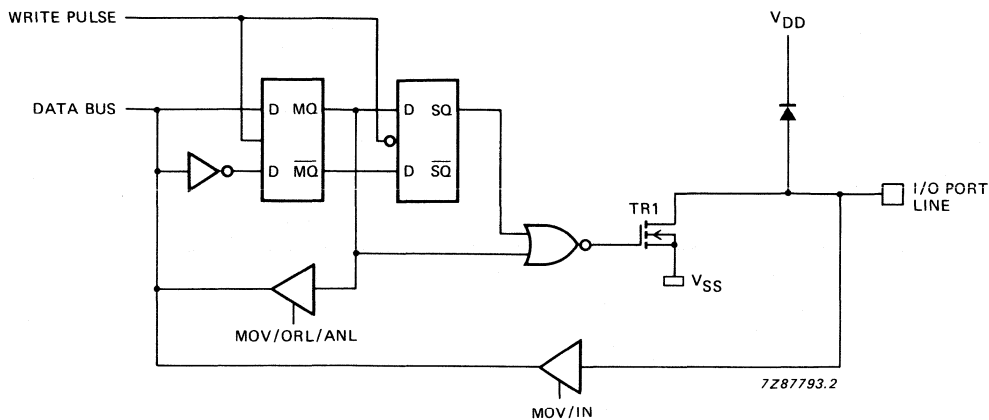

Fig. 13 Open drain output.
2. **OPEN DRAIN:** quasi-bidirectional I/O with only an N-channel open drain output. Application as an output requires connection of an external pull-up resistor (Fig. 13).